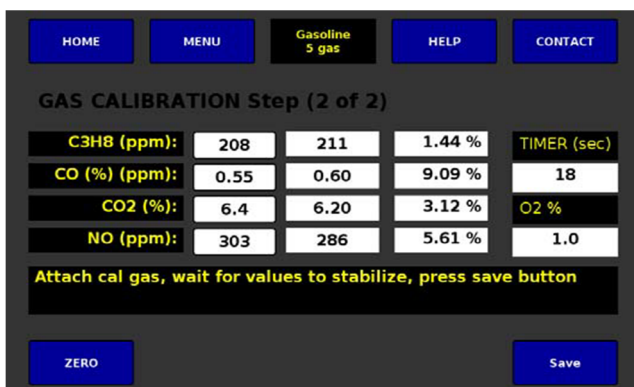
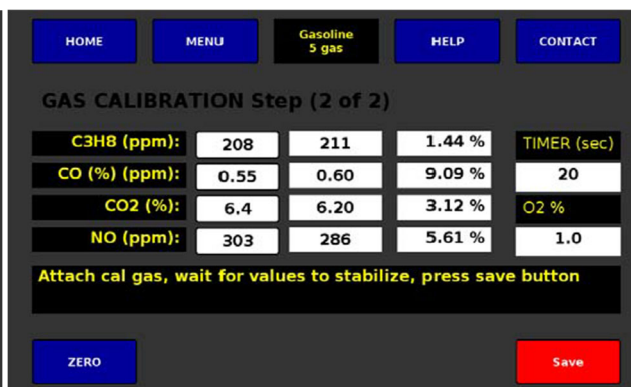
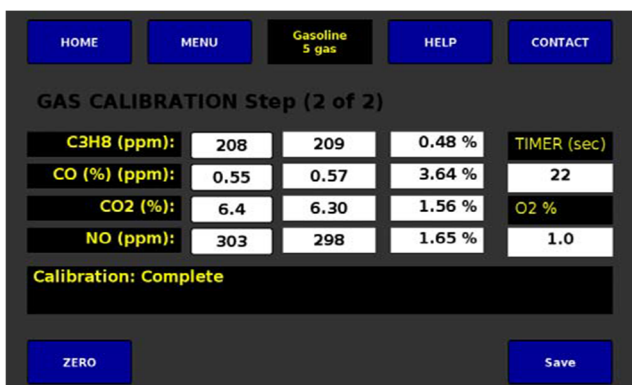

FIGURE 21
FIGURE 22
FIGURE 23
- Cal 2 screen shows 3 columns. The first column shows the stored calibration values typed in from the cal bottle screen 1. The middle column will display the cal gas live reading values, the last column is a % variance to the calibration values and the live readings. With the cal gas connected, once the gas values stabilize (Figure 21), Note: The O2 reading must be 1% or less to activate the save button, press the “Save” button (Figure 22). The status bar will show saving cal data, and then calibration complete, and the values should be reading accurately. A percentage difference value is shown in the 3rd column to see how far off calibration was before and then after calibration (Figure 23). The calibration process is now complete. Turn the calibration gas off to save gas. The calibration process should take approximately 30-40 sec.